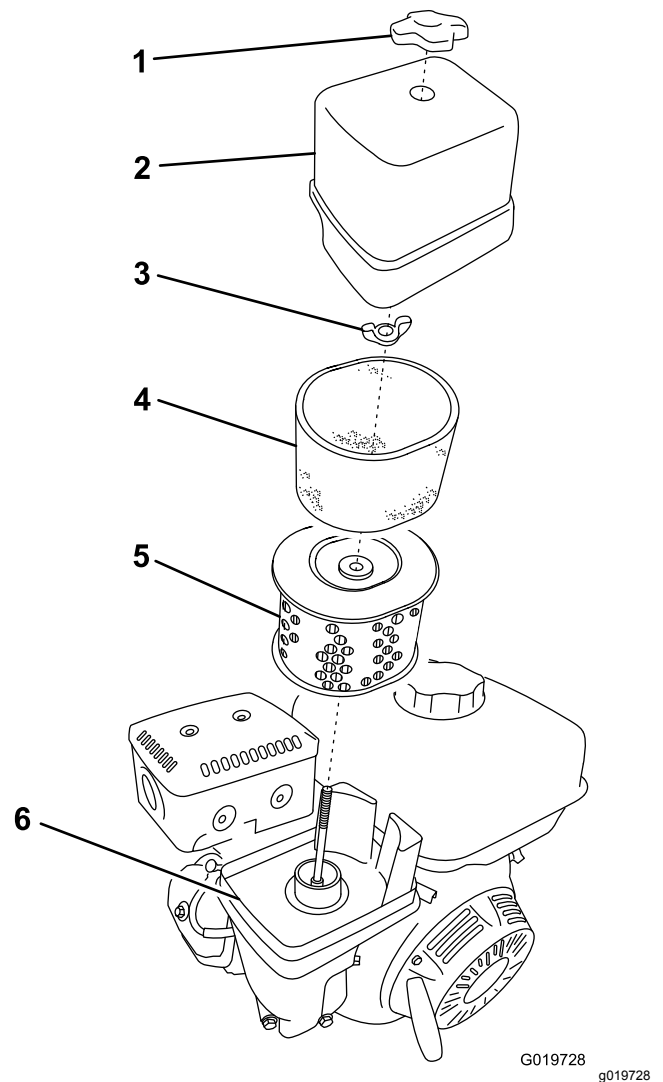

Figure 37
3. Remove the nut that secures the cover (Figure 37).
5. Remove the foam and paper elements from the base (Figure 37).
6. Remove the foam element from the paper element (Figure 37).